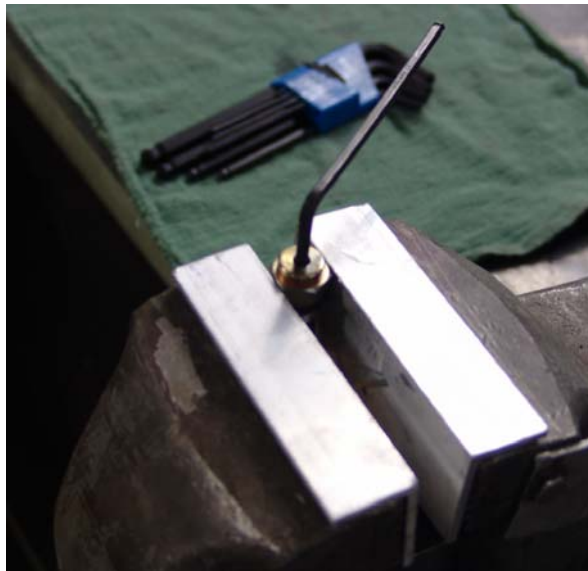

Figure 3
- 5) Place the valve into a soft jaw vice. Using the 4mm hex wrench remove the cap from the pilot operated check valve. See figure 3.